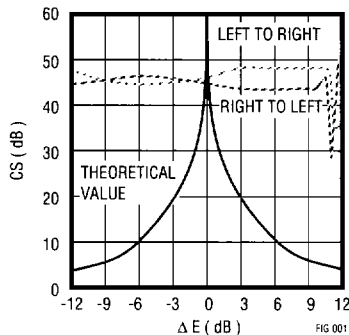

Figure 1: Audio multiplex signal restorer input signal level vs. channel separation
This function is shown in Figure 1 (the solid line). It is clear from Formula 1 and Figure 1 that channel separation deteriorates quickly with a variation in the input signal level. The channel separation correction circuit protects against this deterioration. This circuit controls the level of the signal (the L-R signal and sub-audio signal) that recovered the
sub-channel (FM) signal being input. With this circuit, the deterioration of channel separation due to input signal level variation is sharply reduced. The dashed line in Figure 1 shows the improvement.